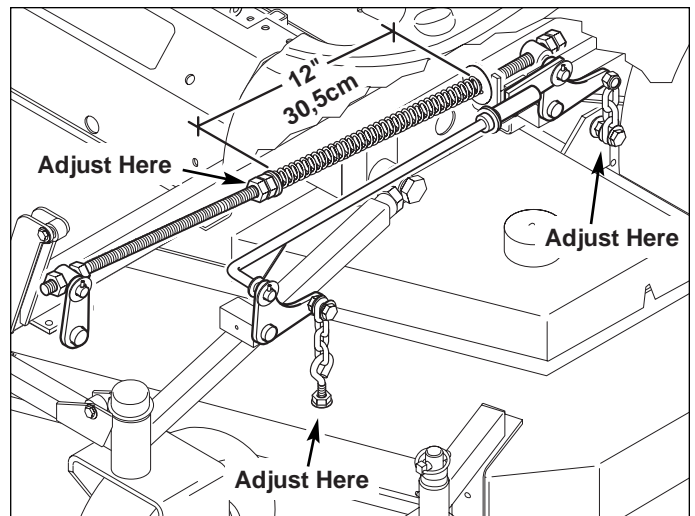

Figure 47. Deck Level & Spring Length Adjustment
6. Adjust the front eyebolts until the chains are tight and the deck is still resting on the 2 x 4's. Tighten jam nuts. See Figure 47.
7. Loosen the nuts and allow the rear of the deck to rest on the 2 x 4's and 1/4" spacers. Slide the chains down in the slots until the chains are tight and tighten the nuts. See Figure 47.
9. With the deck height adjustments complete and cutting height still set at 4", adjust the deck lift spring to a compressed length of 12" (30,5cm). Be sure to measure the spring only. Adjust the length of the deck lift spring by tightening or loosening the (2) 5/8" hex nuts that are closest to the spacer at the front end of the spring (see Figure 47). After adjustment is made, tighten these two nuts together. Perform this step to both springs.